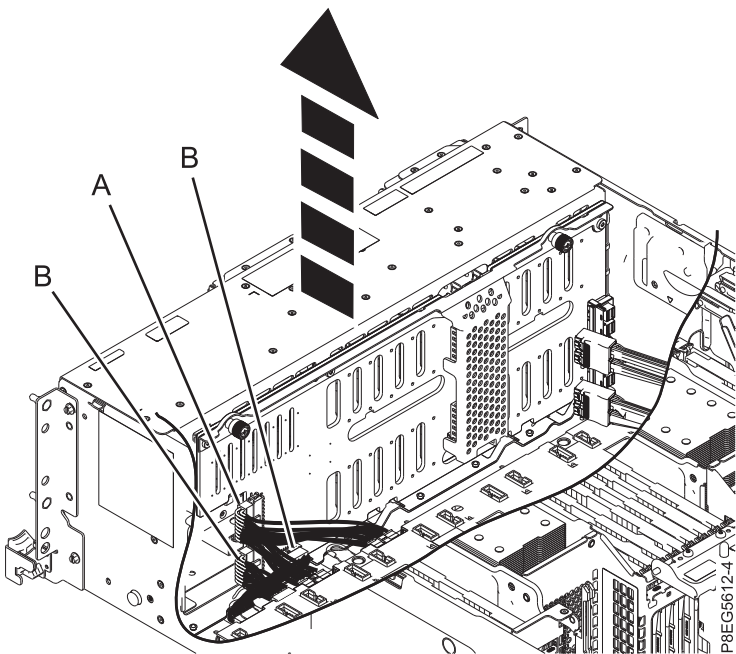

Figure 15. Disconnecting the power, signal, and control panel cables from the disk drive backplane
5. Label and disconnect the power Y cable (**A**), and the signal and control panel cables (**B**), from the disk drive backplane as shown in Figure 15.